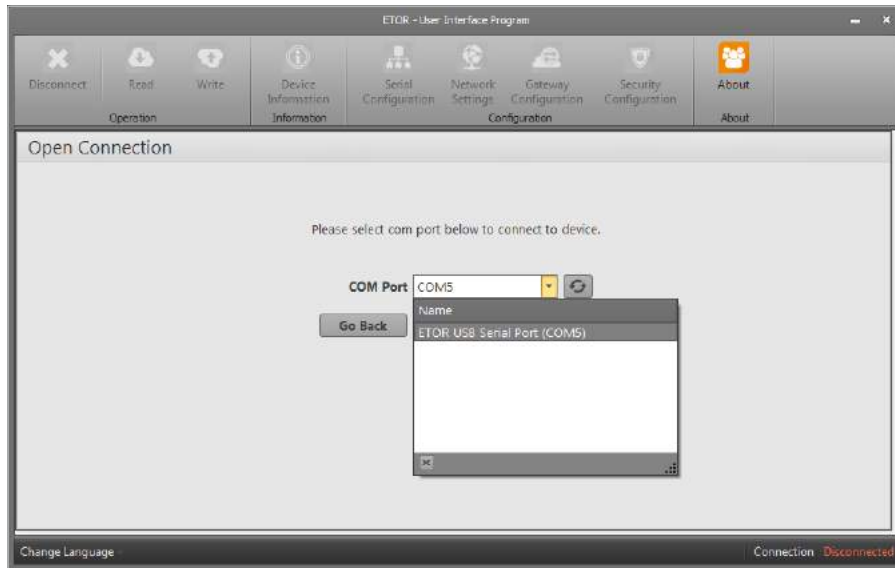

Figure 3-2 COM Port Selection
If ETOR is connected to the PC via USB cable, virtual COM port to which ETOR connects will be listed in the software as in Figure 3-2. If the correct port doesn’t appear on the list, the list can be updated by clicking the “Refresh” button.
**NOTE:** If the virtual serial port to which ETOR connects is not known, it can be selected as shown in Figure 3-2. After the correct port is selected, software connection to ETOR is ensured by pressing “Connect” button.